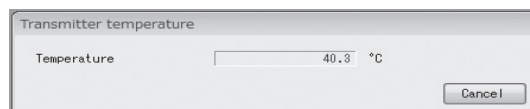

Fig.162
- ⑧ Click "Cancel" to close the "Transmitter temperature log" window.
- ① Click on "Maintenance (M)" > "Maintenance transmitter" > "Transmitter temperature" in the menu.
- ② A window such as the one shown in Fig. 162 will appear, displaying the transmitter's current internal temperature. After verifying the temperature, click the "Cancel" button to exit "Transmitter temperature".